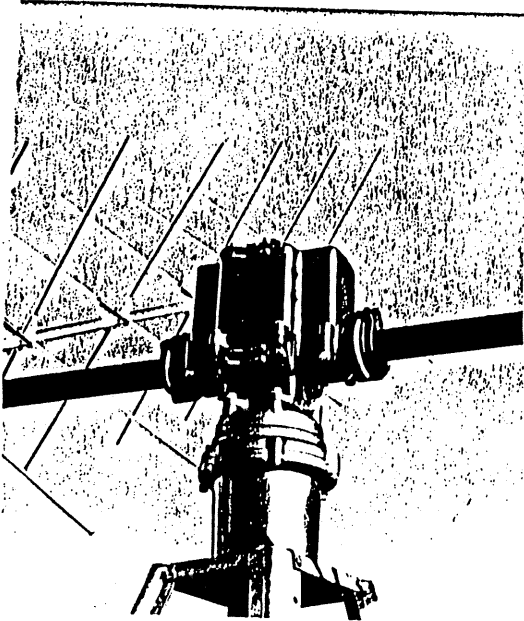

Fig. 2
2. As per Fig. 2, Install 1105 rotor at middle position of antenna tower. Then install EV-700X on the top of rotation mast which passed through the mast bearing on top of antenna tower by using #EV-1217 mast clamp bracket (optional item).